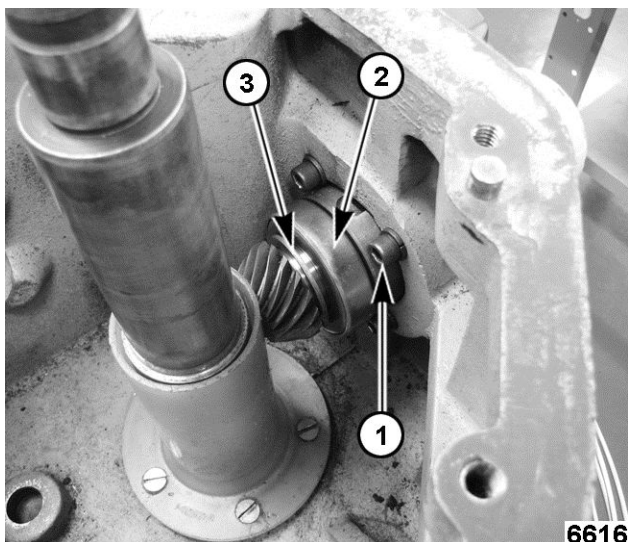

Fig. 79
- A. Remove the bearing (2, Fig. 79) from bevel pinion shaft.
- B. Remove the shim(s) (3, Fig. 79) from bevel pinion shaft.
- B. Remove the socket head screws (1, Fig. 79) which secure the attachment hub to the transmission housing.